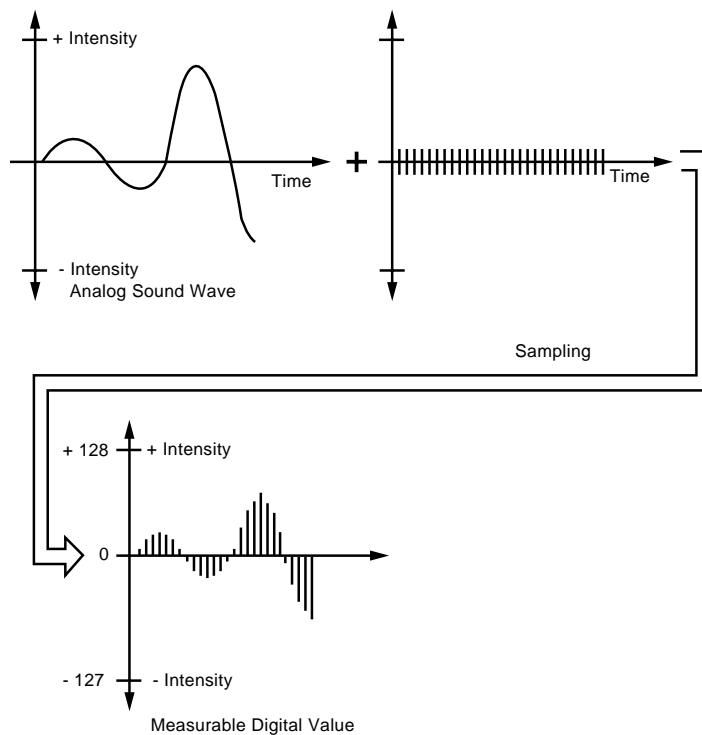

FIG. 12.2 Sampling turns a changing sound wave into measurable digital values.
*Sampling* is the process of turning the original analog sound waves (see Figure 12.2) into digital (on/off) signals that can be saved and later replayed. Snapshots of the analog sounds are taken and saved. For example, at time X the sound may be measured with an amplitude of Y. The higher (or more frequent) the sample rate, the more accurate the digital sound is to its real-life source.